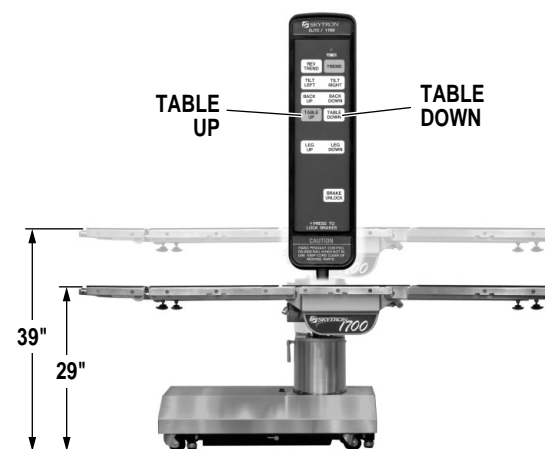

Figure 2-7. Elevation Function
e. Elevation. To raise table top, press the TABLE UP button (figure 2-7). The table will lift a patient weight of 500 pounds up to a maximum height of 39". To lower the table top, press the TABLE DOWN button. The table top will go down to a minimum height of 29".